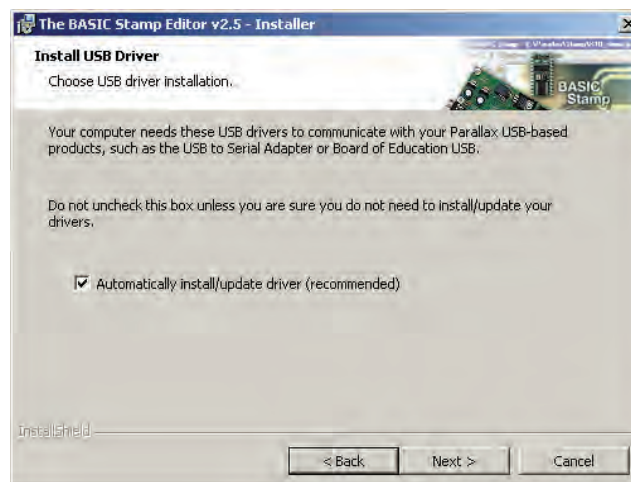

Figure 1-6
- ✓ **IMPORTANT:** When the “Install USB Driver” message appears (Figure 1-6), leave the checkmark in place for the Automatically install/update driver (recommended) box, and then click Next.